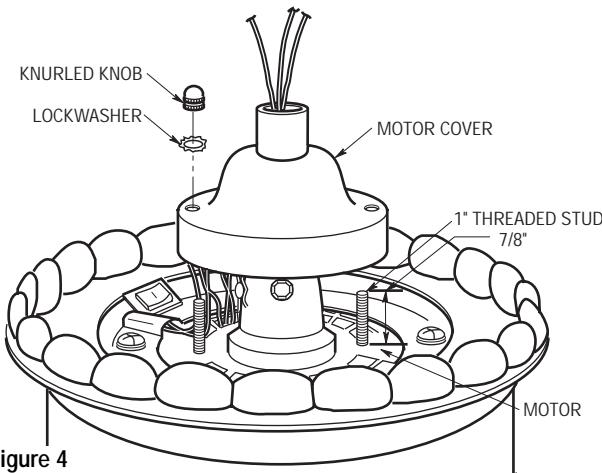

Figure 4
- 6. Screw two 1" threaded studs (supplied) into the motor (Figure 4). Leave approximately 7/8" of the stud extending above the motor. Slide the motor cover over the downrod and rotate the cover until the threaded studs protrude; install two lockwashers and knurled knobs (supplied) to secure the cover.